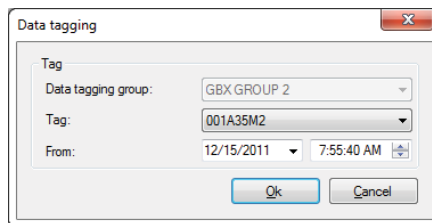

Fig. 12. Set the date for when the tag is valid.
- Set the date when you need the tag to be valid (→ fig. 12) and click **OK**.